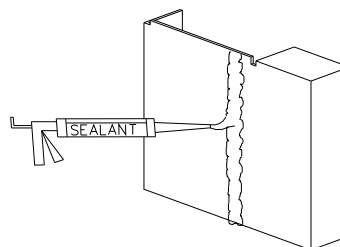

Figure 5:
- If sillpan is more than one piece, butt the pieces and glue them to the floor together (Figure 5).